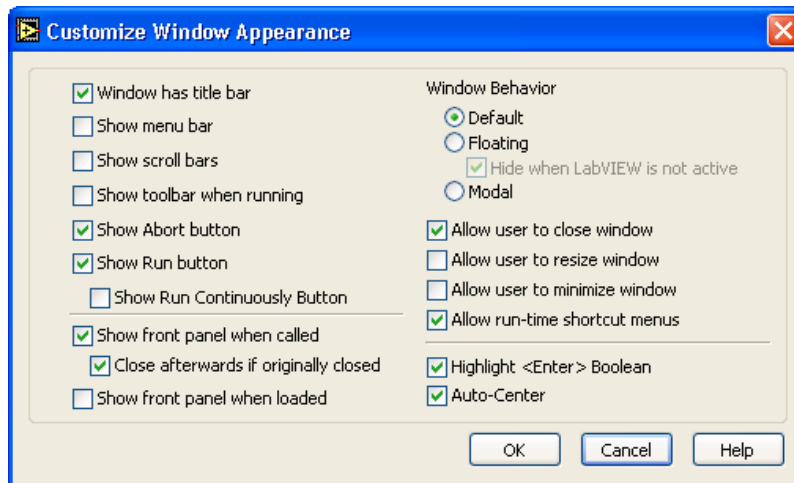

Figure 4.3
- d. Click the **Customize** button. Configure the window appearance as shown in the dialog box (Figure 4.3).